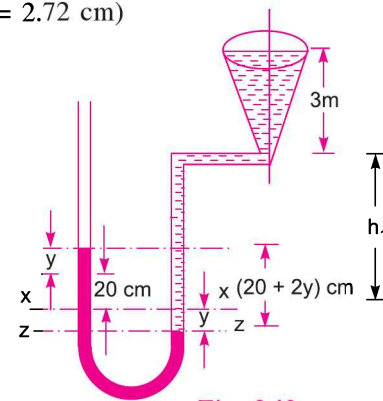

Fig. 2.13
**Vessel is full of water.** When vessel is full of water, the pressure in the right limb will increase and mercury level in the right limb will go down. Let the distance through which mercury goes down in the right limb be,  $y$  cm as shown in Fig. 2.13. The mercury will rise in the left by a distance of  $y$  cm. Now the datum line is Z-Z. Equating the pressure above the datum line Z-Z.